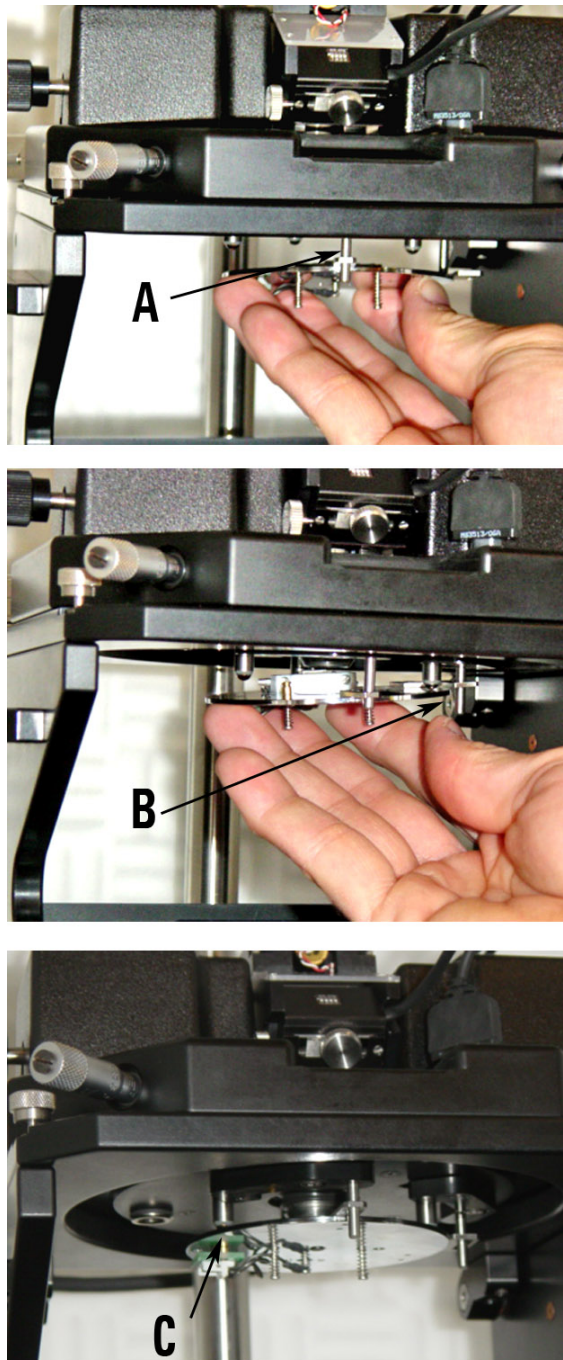

Figure 66 Mounting a sample plate.
- 2 Place the sample plate's front alignment tab over the front alignment pin, as in image A of Figure 66.
- 3 Place the second alignment tab over the alignment pin as in image B of Figure 66.
- 4 Let the magnets on the three posts gently engage the sample plate to hold it in place, as in image C of Figure 66.